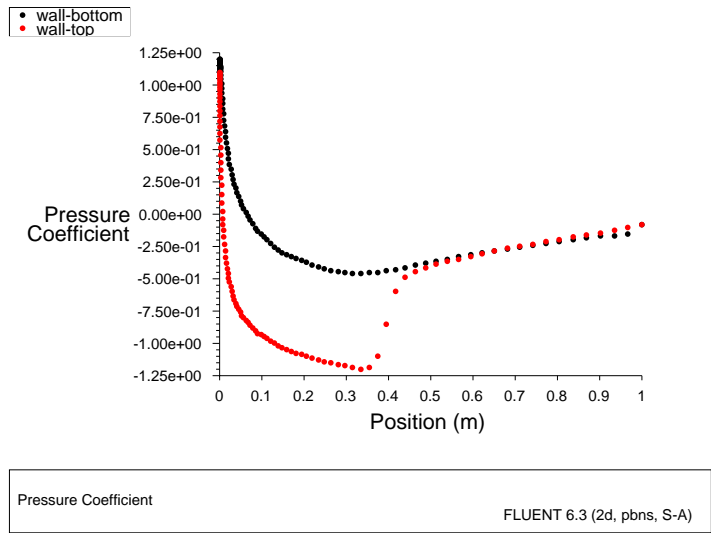

Figure 3.13: XY Plot of Pressure
3. Plot the pressure distribution on the airfoil (Figure 3.13).
*Notice the effect of the shock wave on the upper surface in Figure 3.13.*